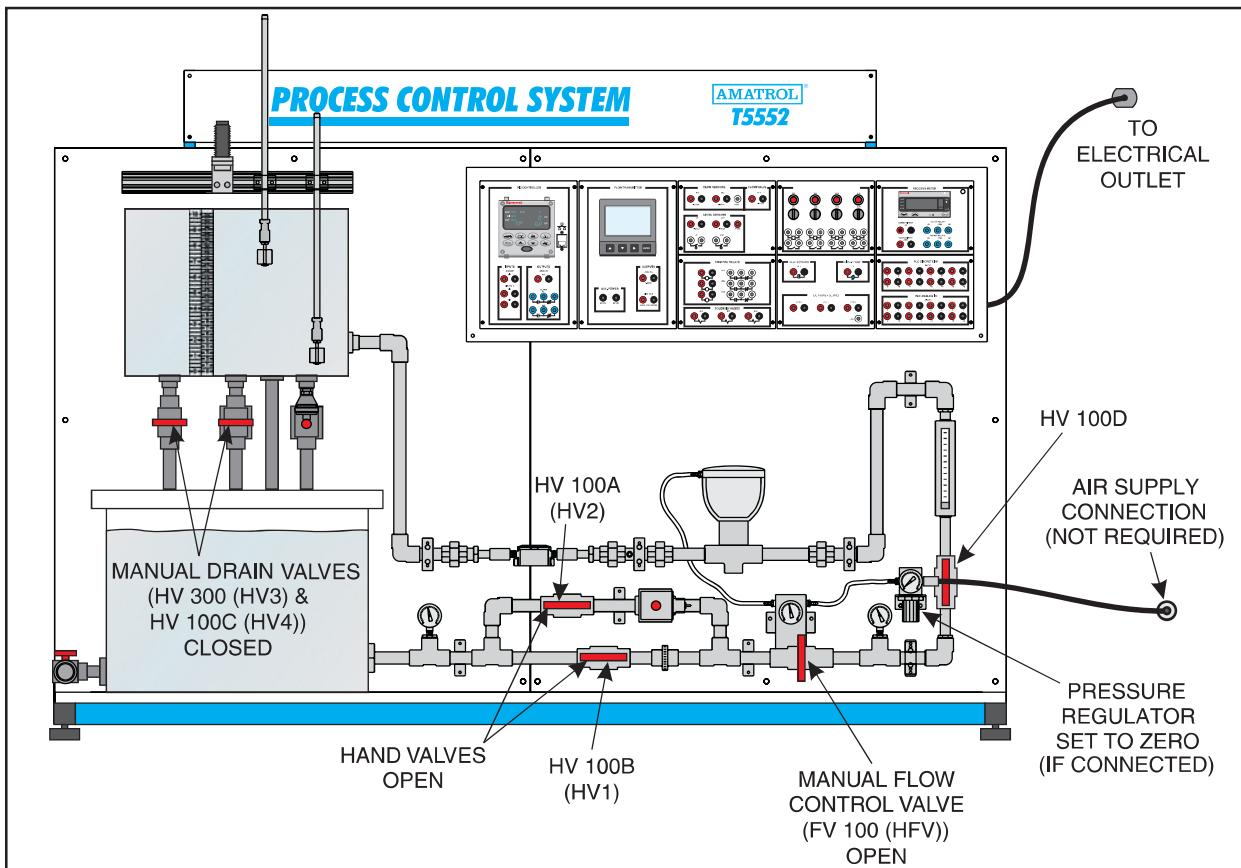

Figure 4-1. T5552 Setup
- 2. Perform the following substeps to set up the T5552, as shown in figure 4-1.